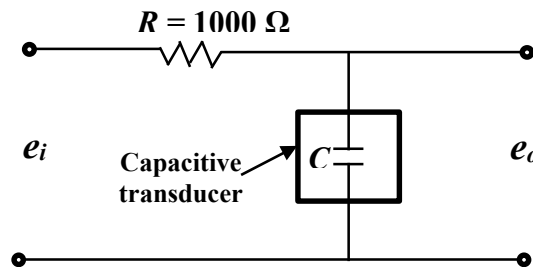

Figure 3
- [c] Consider a capacitive displacement transducer having a diameter of 0.05 m. Assume that the following relationship governs the capacitive displacement transducer in Figure 3: